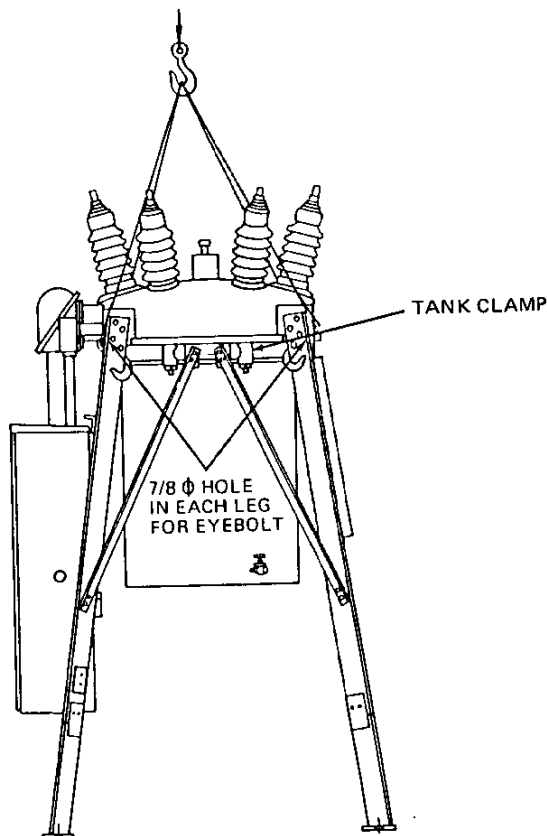

Figure 4
9. Tighten the nuts to secure the tank clamps to the underside of the tank flange by pulling up progressively in small increments (Figure 4).
- A. With the breaker in the upright position, attach slings from front to back at the points shown in Figure 4.
- (1) Because of the weight of the operating mechanism cabinet, slings must be of unequal length; therefore, clamps — or similar fixtures — must be provided on the ends of the slings to prevent the hoisting cables from sliding in the lift hook.
- (2) Lift the breaker straight up, being careful not to damage the bushings with the lifting rigging.
- B. With the breaker in the upright position, place eyebolts suitable for lifting in each of the four 7/8 inch holes near tops of the frame legs (Figure 4).
- (1) Attach slings to the eyebolts.